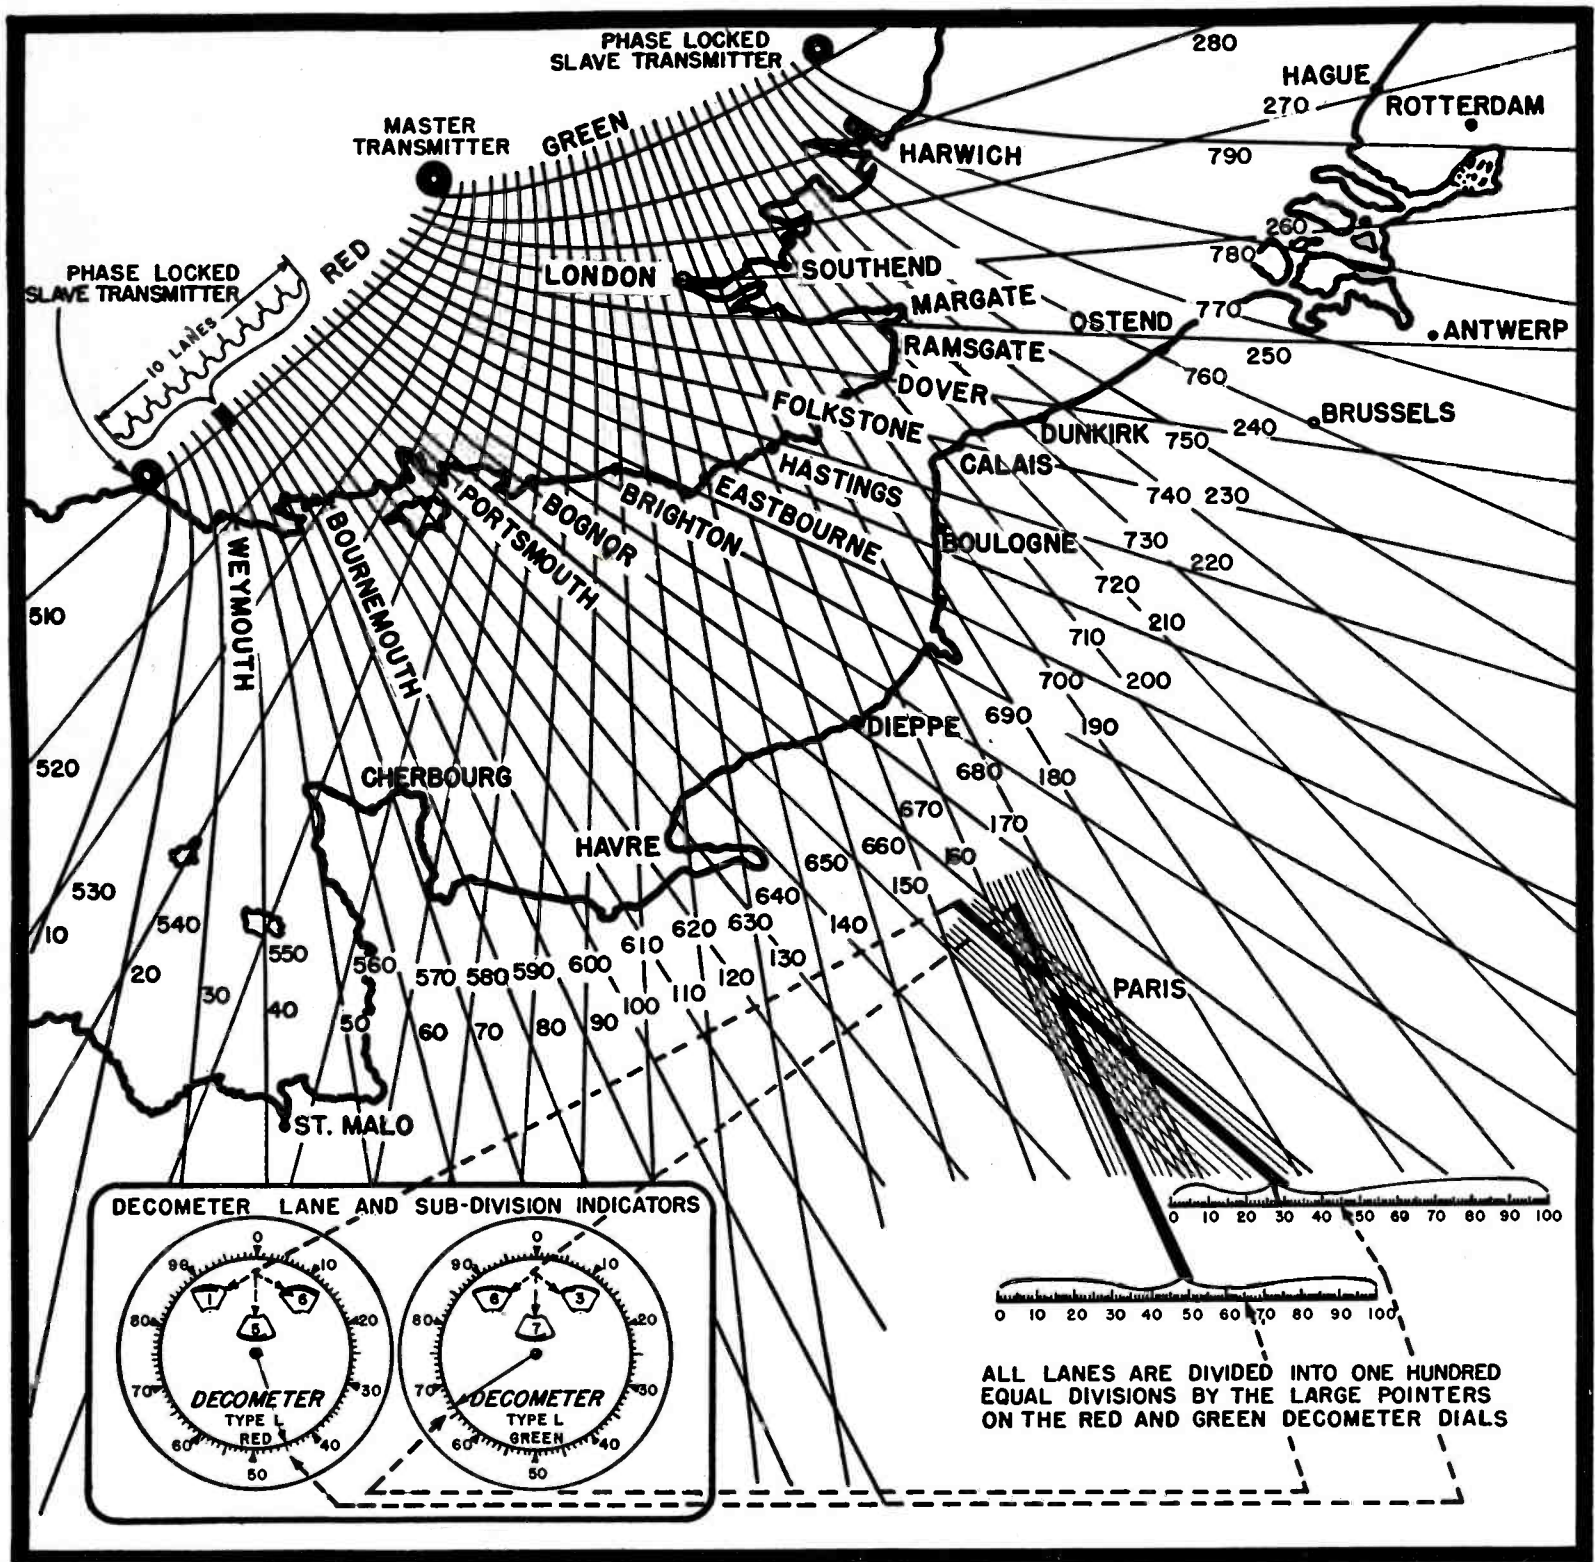

Figure 3
A duplicate instrument indicates the lane and sub-divisions associated with the second pair of stations. The two indicators are shown in Figure 3, with their readings related to a position on the map. The charts actually used are,
The next problem was to insure that the phase pattern, of which Figure 3 is an example, was accurately maintained. This obviously necessitated that the outputs from the two transmitters in any pair be not only on the right frequencies at all times, but also invariably in phase within about 1°. Obviously this is quite impossible if they transmit independently. Therefore one of them, say (A), is the *master*, and (B) and (C) are the *slaves*.
The actual frequencies of the chain shown in Figure 3 are: